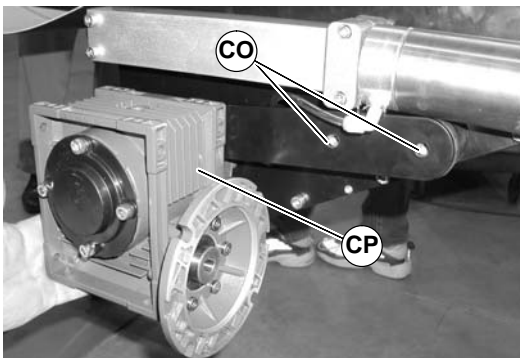
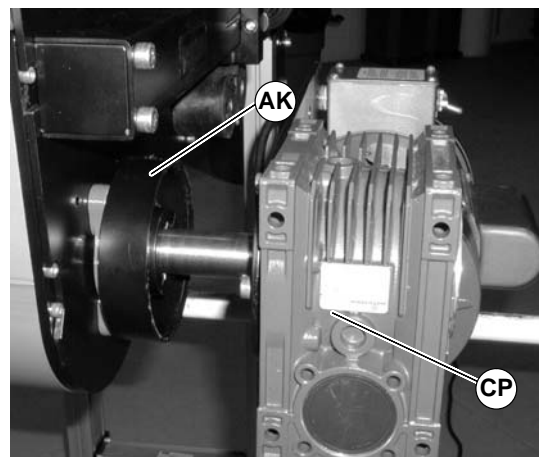

Figure 85
Figure 89
- Remove screws (CO of Figure 85) and remove gearmotor (CP) (NOTE: Gearhead shown with motor removed for clarity, motor can remain attached to gearhead).
- Reinstall spacer ring (AK of Figure 89) and gearmotor (CP). Tighten screws (CO of Figure 85) to 150 in-lbs (17 N-m).